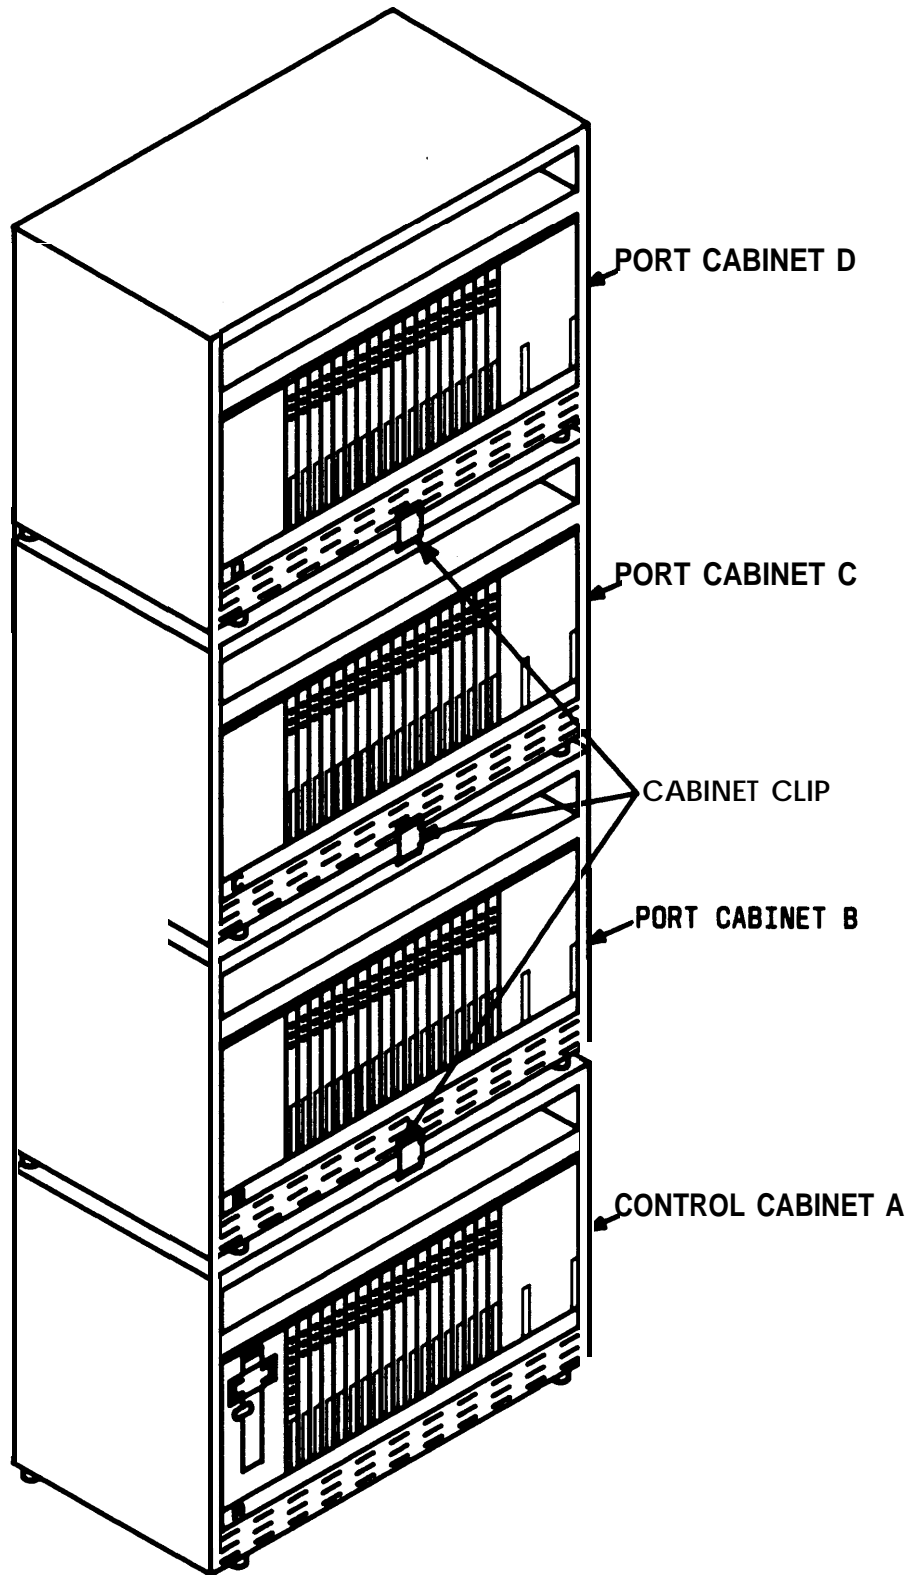

Figure 38. Four-Cabinet System—Front View, Doors Removed
2. See **DANGER**. Stack cabinet(s) on top of control cabinet A (see Figure 38).
At the front of the cabinets, install cabinet clip between the cabinets by hooking the clip into the slot on the upper cabinet and snapping the straight leg of the clip into the slot on the lower cabinet (see Figures 38 and 41).